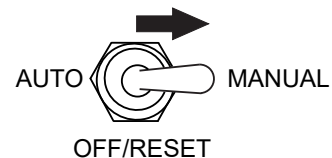

Figure 32. Auto Start/Stop Switch (Manual Position)
3. Place the **Auto Start/Stop Switch** in the **MANUAL** position to start the engine (Figure 32).